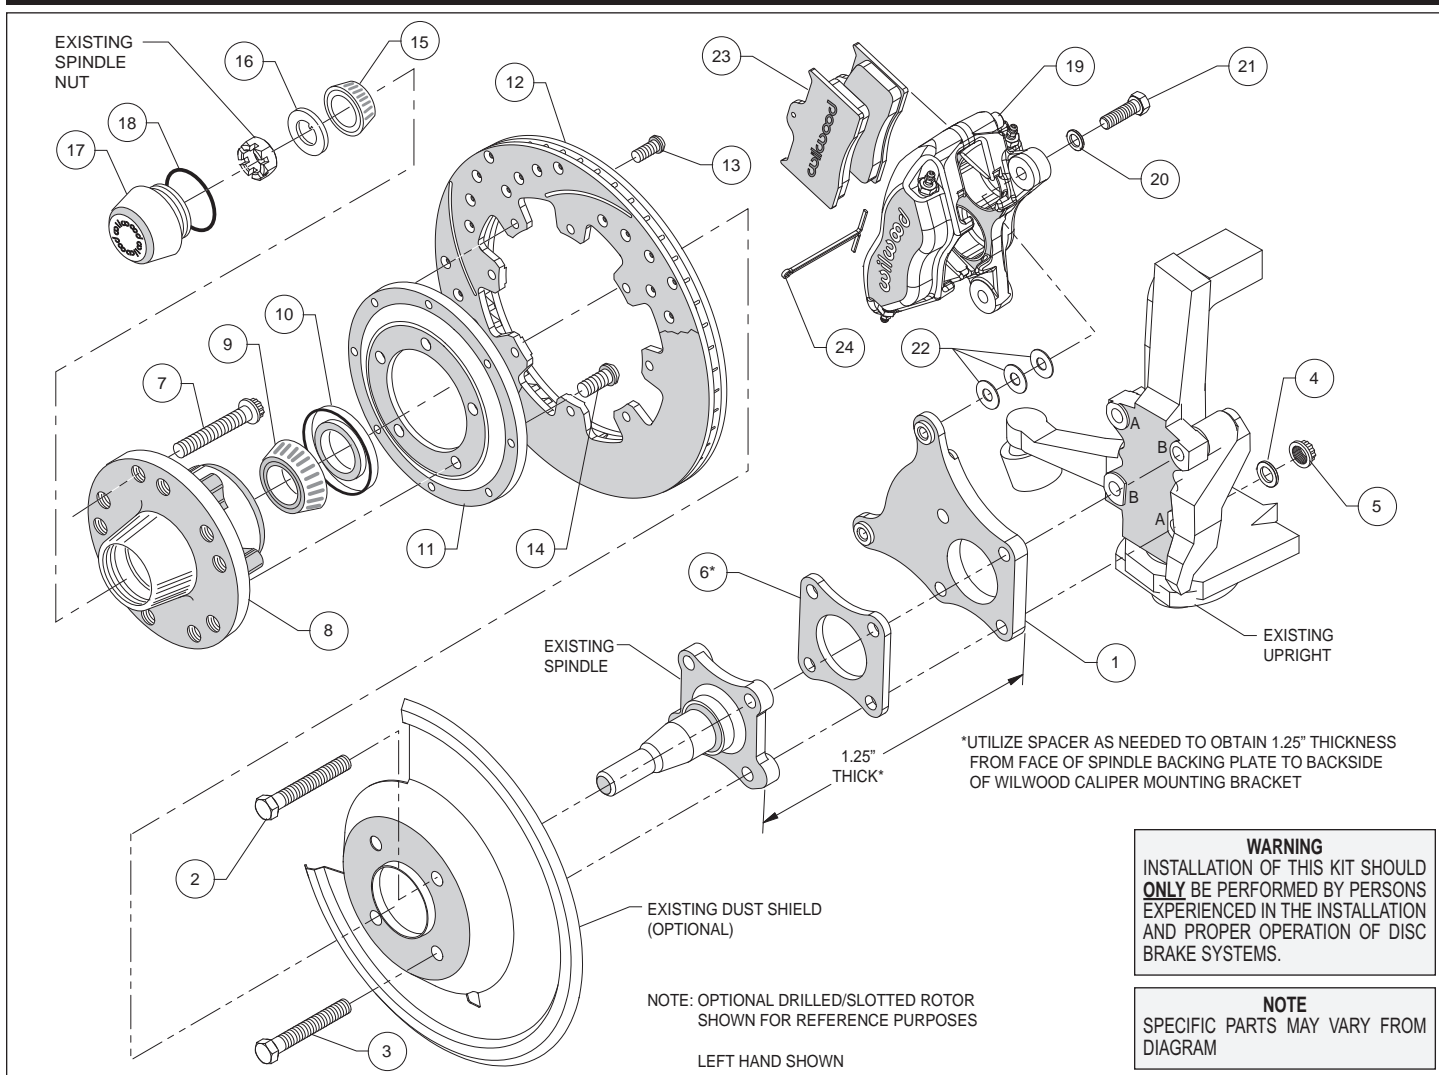
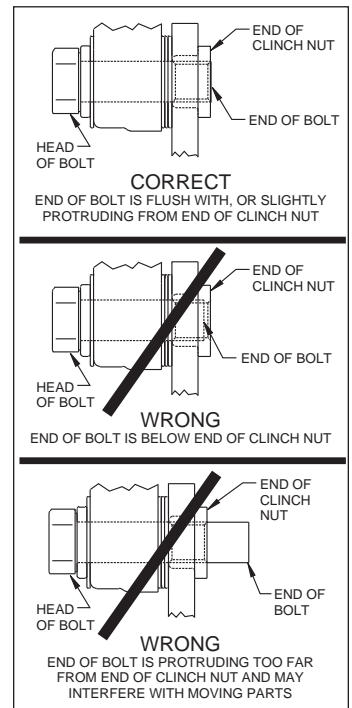

Figure 1. Typical Installation Configuration
Figure 3. Clinch Nut Engagement Diagram
Assembly Instructions (numbers in parenthesis refer to the parts list, on the preceding page and Figure 1): **CAUTION:** *All mounting bolts must fully engage clinch nuts.* Be sure to check that all bolts are either flush or protruding through flanged side of clinch nut after shimming, Figure 3.
- Align caliper mounting bracket (1) with the corresponding holes, between the upright and the spindle. Attach using bolts (2 and 3), washers (4), and locknuts (5) as shown in Figure 1 and Photo 1. Bolt (2) goes into holes on the upright designed with a "B" and bolt (3) goes into the "A" marked holes, Figure 1. Measure the thickness of the spindle and mounting bracket, Figure 1. If approximately 1.00", place spacer (6) between the spindle and mounting bracket to achieve the correct thickness. Temporarily tighten the mounting bolts. Ensure that the flanged heads of the clinch nuts in the bracket are facing outboard, Photo 1. **NOTE:** *The bracket must fit squarely against the mounting bosses on the upright.* Inspect for interference from casting irregularities, machining ridges, burrs, etc. Remove bolts one at a time, apply red *Loctite*® 271 to threads and torque to 47 ft-lbs.
- Install wheel studs (7) into the hub (8), Photo 2. Torque to 77 ft-lb. **NOTE:** *There are two five lug patterns in the hub (5 x 4.50 and 5 x 4.75).* Ensure the correct hub stud pattern is being used to fit the wheel application.
- Pack the large inner bearing cone (9) with high temperature disc brake bearing grease (available from your local auto parts store) and install into the backside of the hub (8), Photo 3.
- Install the grease seal (10) by pressing into the backside of the hub (8), flush with the end of the hub, Photo 3.
- Orient the rotor (12) and the rotor adapter (11) as shown in Figure 1 and Photo 4. Attach the rotor to the adapter using bolts (13). Using an alternating sequence, apply red *Loctite*® 271 to the threads, and torque to 25 ft-lb.
- Mount the adapter/rotor assembly (11/12) to the hub (8) using bolts (14), as shown in Figure 1 and Photo 5. Using an alternating sequence, apply red *Loctite*® 271 to the threads, and torque to 45 ft-lb.
- Pack the small outer bearing cone (15) with high temperature disc brake bearing grease and install into hub (8). Slide the hub/rotor assembly onto the spindle. Secure using spindle washer (16) and OEM spindle nut, Photo 6. Adjust bearings per OEM specifications. Install saved OEM nut lock (if any) and a new cotter pin (not supplied).
- Screw dust cap (17) into hub (8), Photo 7. Friction created by the o-ring (18) on the dust cap keeps it from unscrewing. **NOTE:** The O.D. of the existing OEM spindle washer may be larger than the I.D. of the dust cap not allowing it to seat against the hub face. Therefore, use the spindle washer (16) supplied with the kit instead of the OEM washer.
- NOTE:** Please reference the caution statement at the beginning of the assembly instructions. Mount the caliper (19) onto the caliper mounting bracket (1) using bolts (21) and washers (20), as shown in Figure 1. Initially place three .035" thick shims (22) on each bolt between the caliper and the bracket, Photo 8. Temporarily tighten the mounting bolts and view the rotor (12) through the top opening of the caliper. The rotor should be centered in the caliper, Photo 9. If not, adjust by adding or subtracting shims between the bracket and the caliper. Always use the same amount of shims on each of the two mounting bolts. **NOTE:** The end of each bolt must be flush with or slightly protruding from the head of the clinch nut, as shown in Figure 3. If necessary place spare shims between washer (20) and caliper mounting ear to achieve the proper clinch nut engagement. Once the caliper alignment and clinch nut engagement are correct, remove the bolts one at a time, apply red *Loctite*® 271 to bolt threads, and torque to 40 ft-lb.
- Install the disc brake pads (23) into the caliper, with the friction material facing the rotor (12), and secure in place using cotter pin (24), Photo 10.